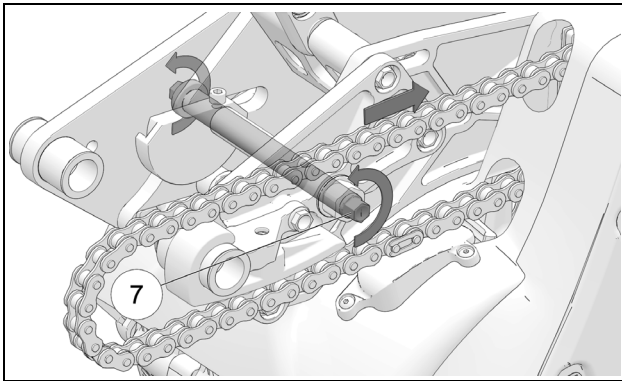

Figure 44
**NOTE:** Be careful to not loosen the two bolts (2) too much; T-nuts could fall out and be lost.
- Rotate eccentric bolt (7) to adjust chain tension as required. Use a 12-mm socket. Figure 44.